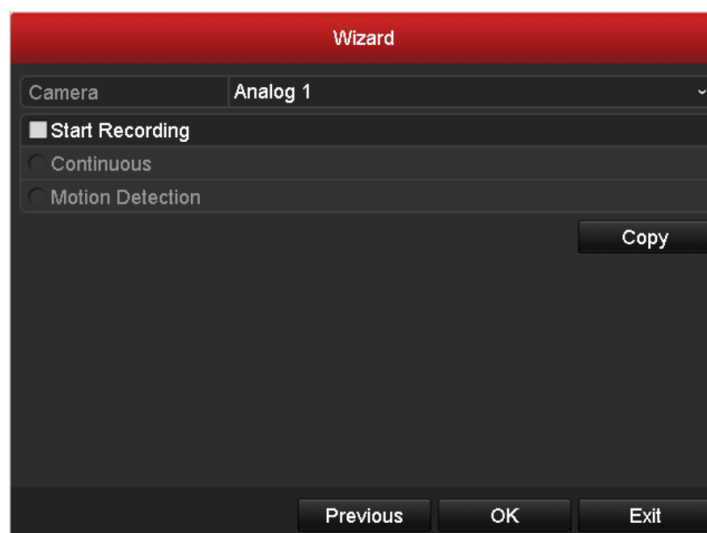

Figure 2.9 Record Settings
12. Click **Next** button to enter the **Record Settings** window, as shown in Figure 2.9.